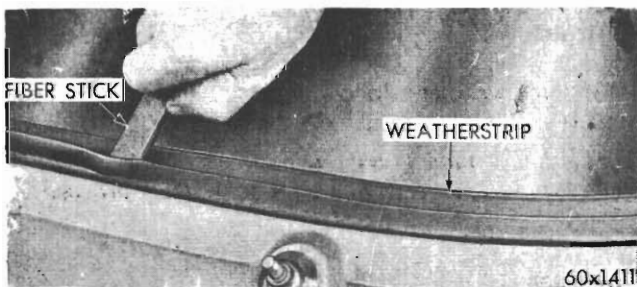

Fig. 31 - Unlocking windshield or rear window weatherstrip (typical view)
(1) Carefully mask all areas of paintwork around the windscreen rubber.
(2) Place a protective covering on the engine hood.
(3) Remove the wiper arms and blades.
(4) Remove the Mylar joint covering clip (where applicable) and pry out the Mylar locking trim from the weather strip.
(5) Insert a tapered wedge of fibre or hardwood into the weatherstrip lock groove and free off the windshield seal (refer Fig. 31).